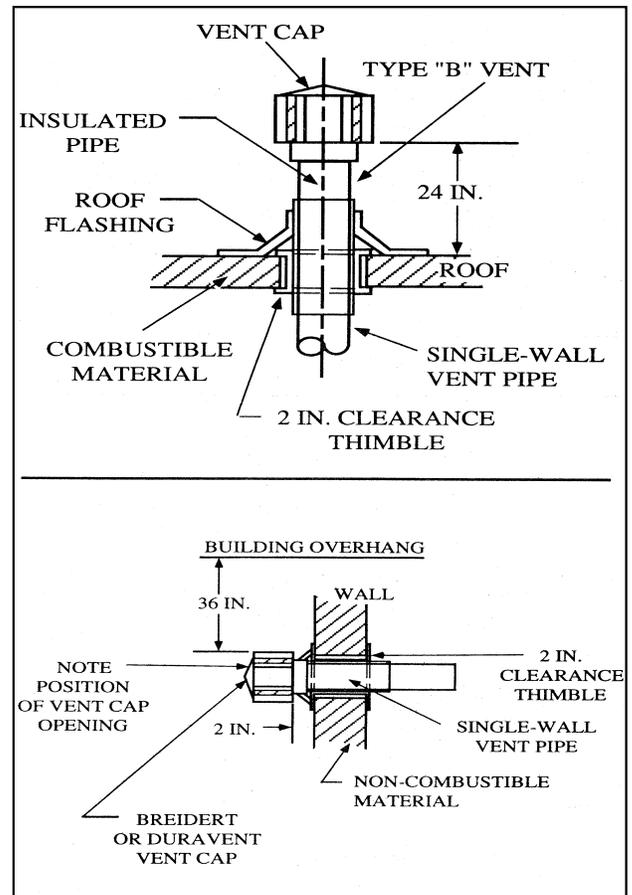

Figure 1-20
- Stacks may consist of a 10 ft. section of radiant tubing, if desired. Single wall galvanized flue pipe must be used. The portion of the flue pipe which goes through combustible material in the building wall or roof must pass through a type “B” vent sleeve to maintain clearances (see Figures 1-20 and 1-21). See the Flue Venting Chart for maximum stack lengths.
- Stacks may exit the building either horizontally or vertically. Vertical venting exiting the roof should be 2 ft. above the roof. For horizontal venting, the flue should be 2 in. from the sidewall. Care should be exercised to ensure that the vent opening is beyond any combustible overhang (see Figure 1-20).